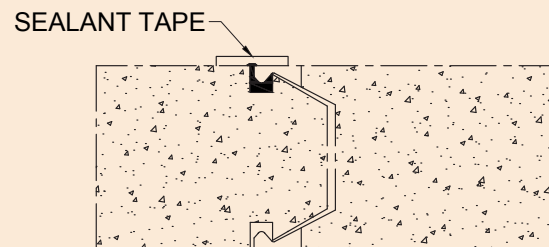

FIGURE 6 SEALANT TAPE
- D. Keep in mind that a sealant tape may be used in addition to all these connections (see figure 6)